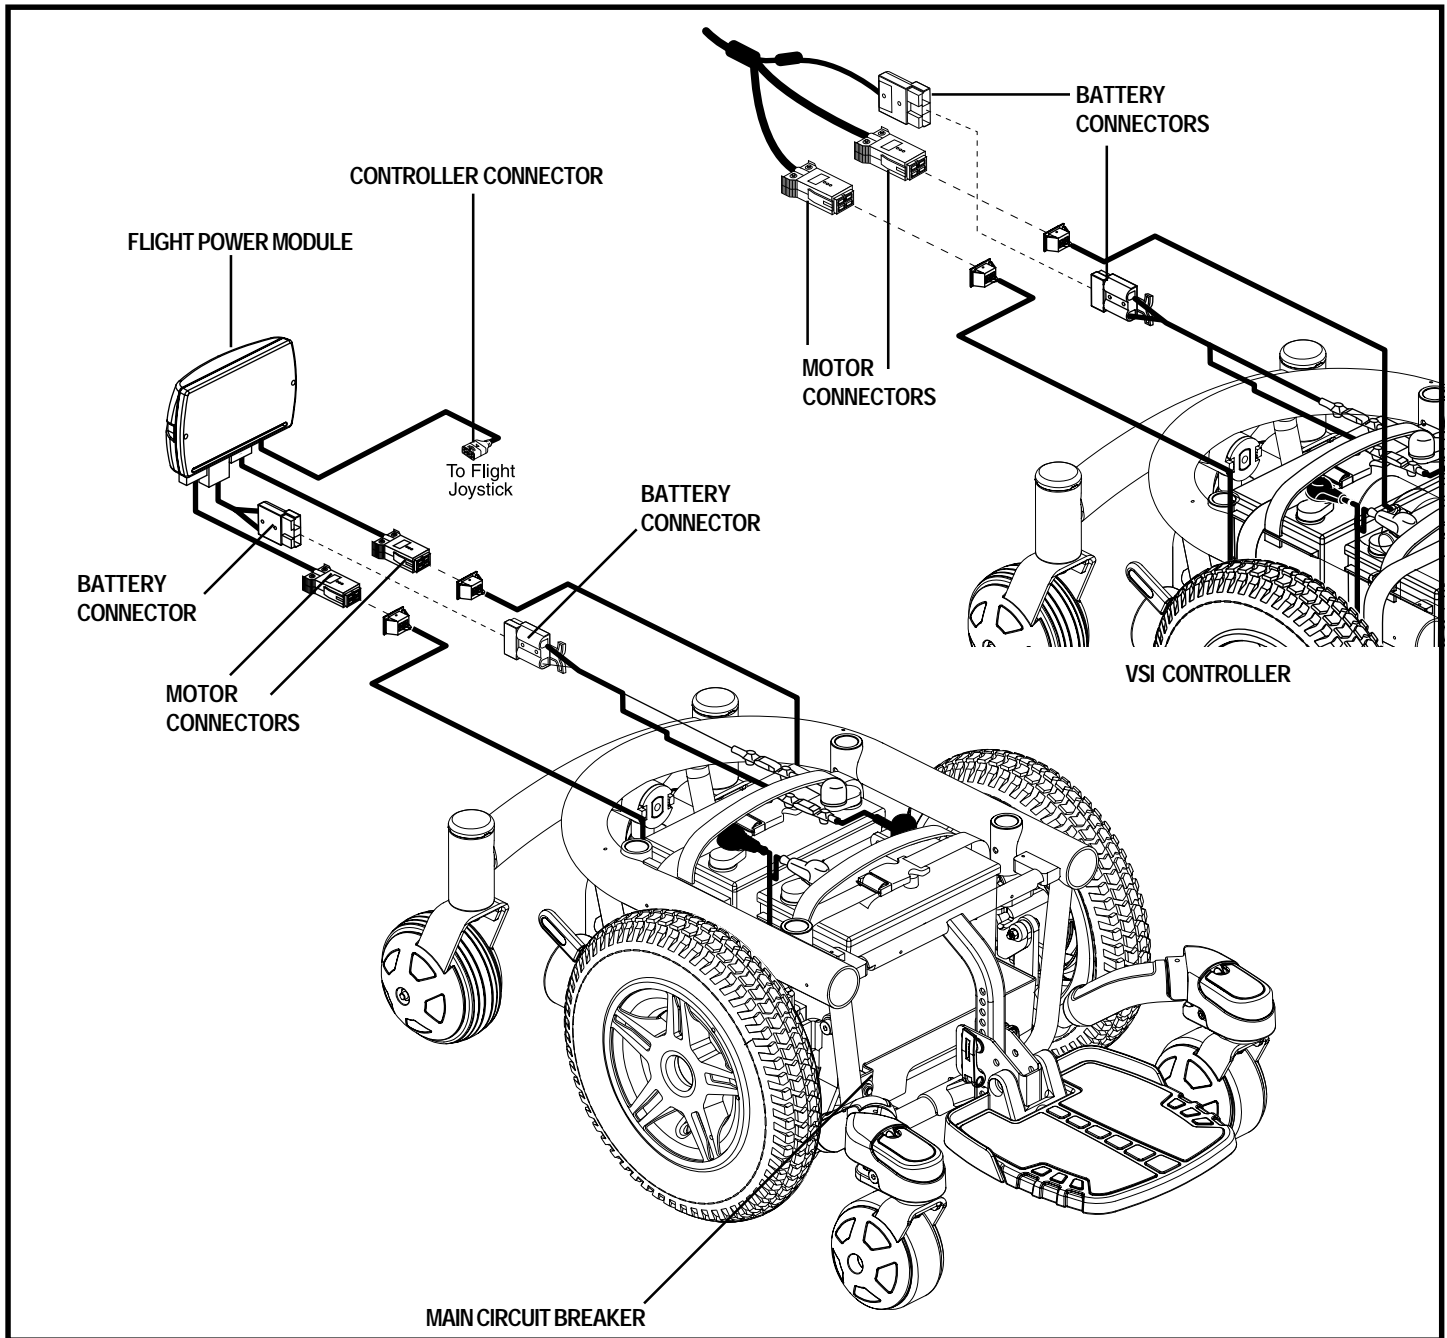

Figure 7. Quantum 600 XL Electrical Components
The electrical components are located inside the power base. The main circuit breaker is located on the front of the battery tray. The controller connector(s) are located inside the power base. See figure 7.
6. Plug the controller connector(s) into the power base. See figure 7.
3. Disconnect the controller connector(s) from the power base. See figure 7.